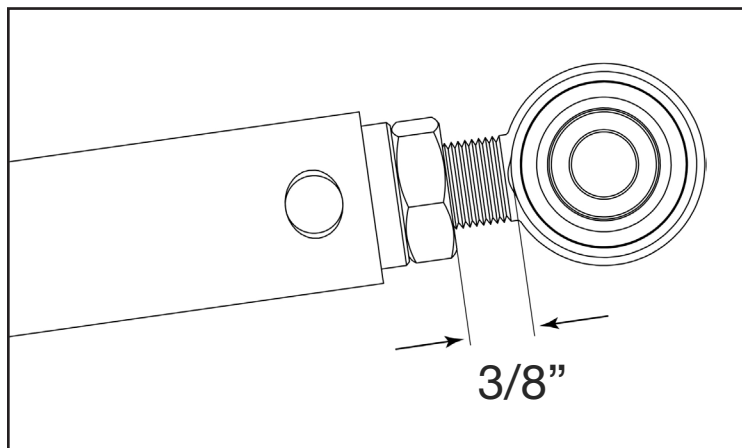

FIGURE 3 - STEP 5
5. Install all these components in the control arm bungs using the diagram below. The starting point for the adjustment on the rod end should be a 3/8" from the jam nut. **SEE FIGURE 3**